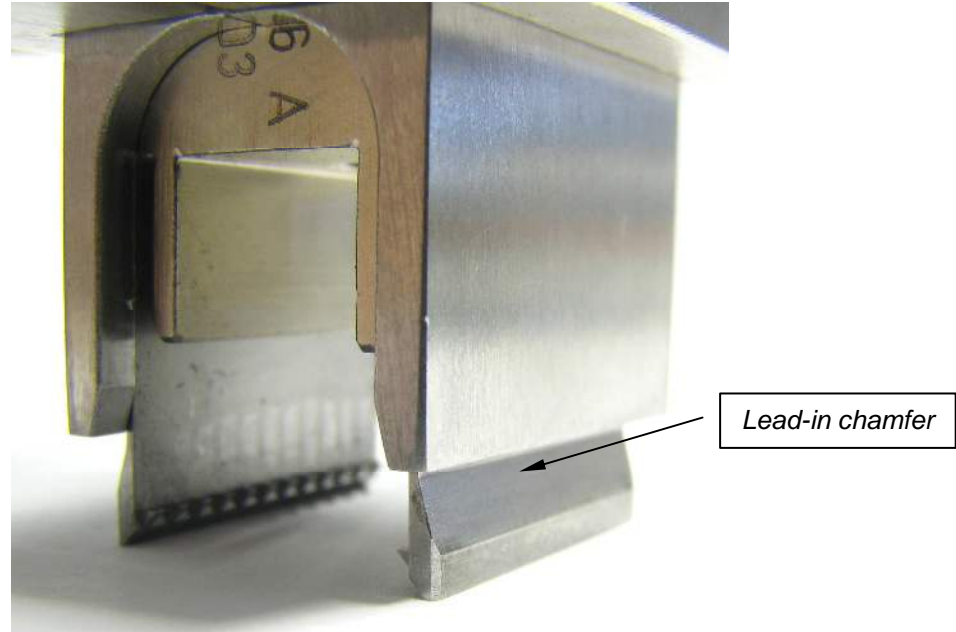

Figure 11
1. Before the removal tool may be used it must be ensured that, by turning the handle counter clockwise, the gripper plates are lowered far enough in order for them to be able to bend open while fitted onto the connector. The lead-in chamfer must be completely visible. In the following this position shall be called "basic position" (see figure 11).